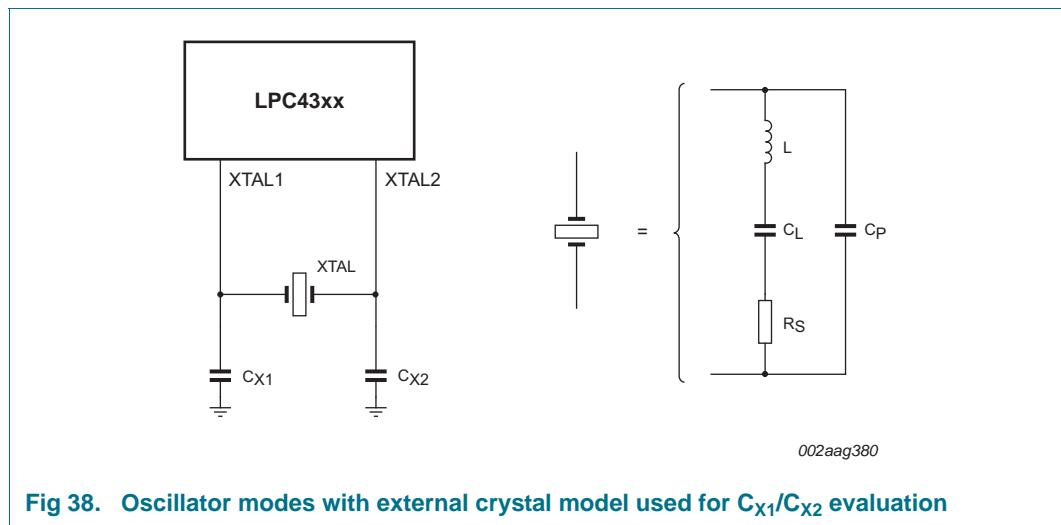

Fig 38. Oscillator modes with external crystal model used for C_{X1}/C_{X2} evaluation
- External components and models used in oscillation mode are shown in Figure 38, and in Table 31 and Table 32. Since the feedback resistance is integrated on chip, only a crystal and the capacitances C_{x1} and C_{x2} need to be connected externally in case of fundamental mode oscillation (the fundamental frequency is represented by L , C_L and R_s). Capacitance C_P in Figure 38 represents the parallel package capacitance and should not be larger than 7 pF. Parameters F_C , C_L , R_s and C_P are supplied by the crystal manufacturer.